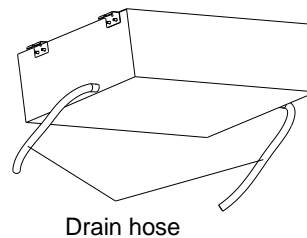
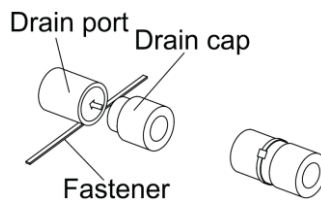

Figure 3-1-10
Figure 3-1-12
(5) Use a suitable drain hose, and see Table 3-2-4 for its size.
(6) There is a drain port on both the left and right sides. Select the drain port to match the local conditions. (Figure 3-1-10)
(7) When the unit is shipped from the factory, the drain port is defaulted to be the one on the left side (electric box side), the port on right side has been plugged.
(8) When using the drain port on the right side of the unit, reinstall the drain cap to the left side drain port. (Figure 3-1-12)